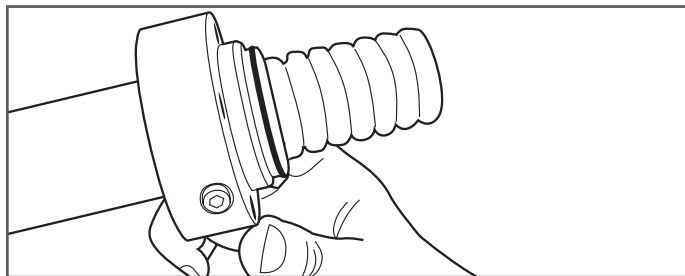

Figure 7-16
- 17.** Prepare DoubleTrac® piping for final cut. Slide middle section of fitting onto the DoubleTrac® pipe until it bottoms out (Figure 7-16).